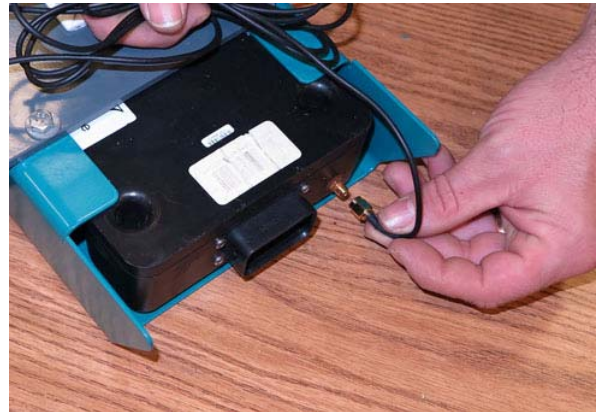

FIG. 12
16. Connect the telemetry antenna (10) cable to the control box (1). (Fig. 12)